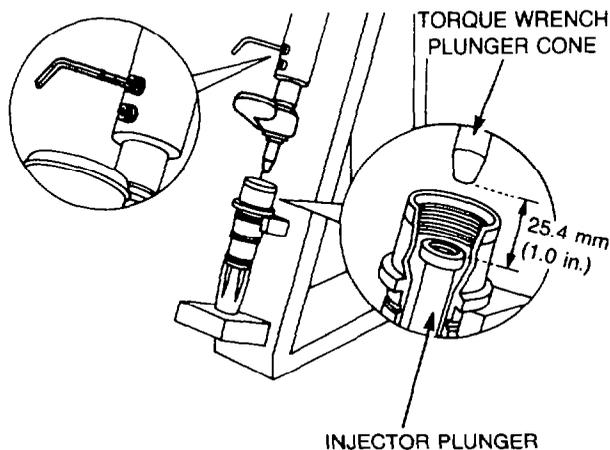

Figure 107 — Torque Wrench Plunger Cone
- b. Loosen the setscrews in the torque wrench stem (see Fig. 107)
- c. Loosen the setscrews in the torque wrench stem (see Fig. 107), then set the torque wrench plunger cone 25.4 mm (1.0 in.) above the injector plunger surface and tighten the setscrews.